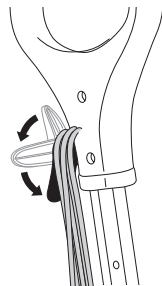

fig. 6
- 6 Plug the power cord into an electrical outlet. The **STEAM CONTROL** button will flash blue (**fig. 6**).